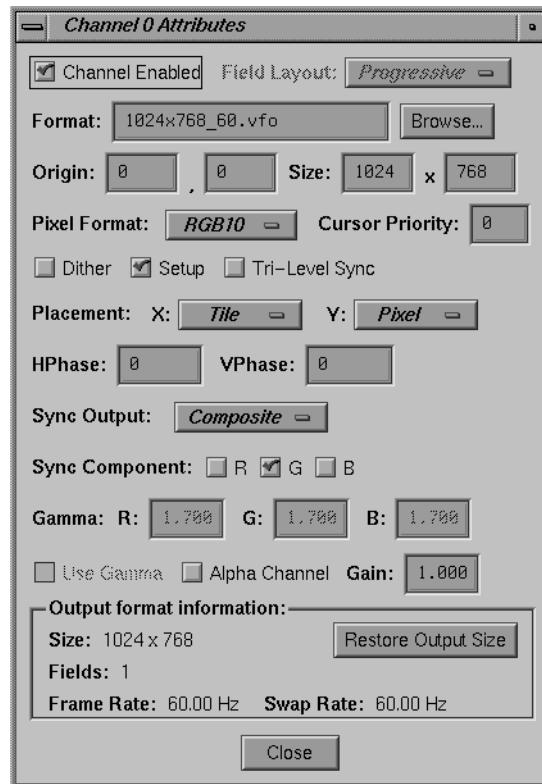

Figure D-4 Channel Attributes Window
4. Bring up the Attributes window by double-clicking the *Ch1* button in the Combiner main window. The Channel 1 Attributes window appears, as shown in Figure D-4.
7. Move to the right Origin box (the y-origin box) and replace the value with **10**; press **Enter**. See Figure D-4 for an example.